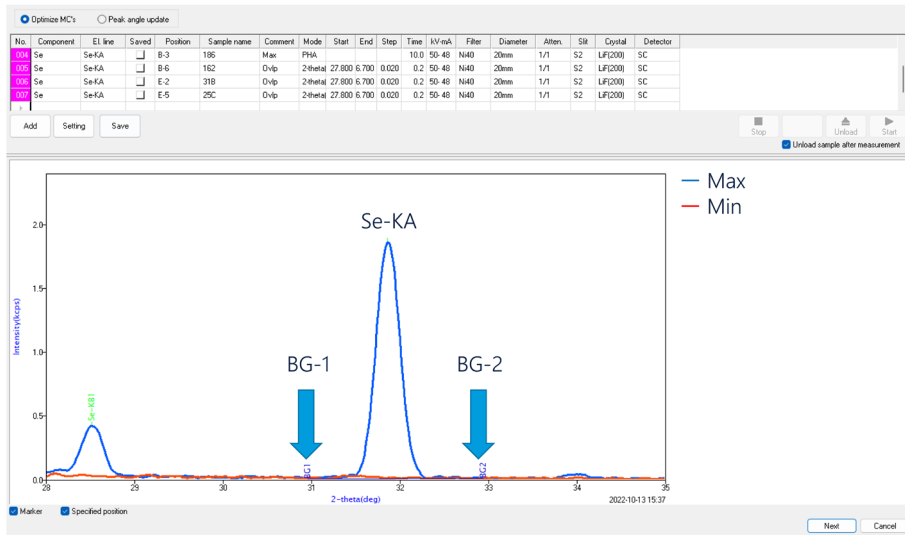
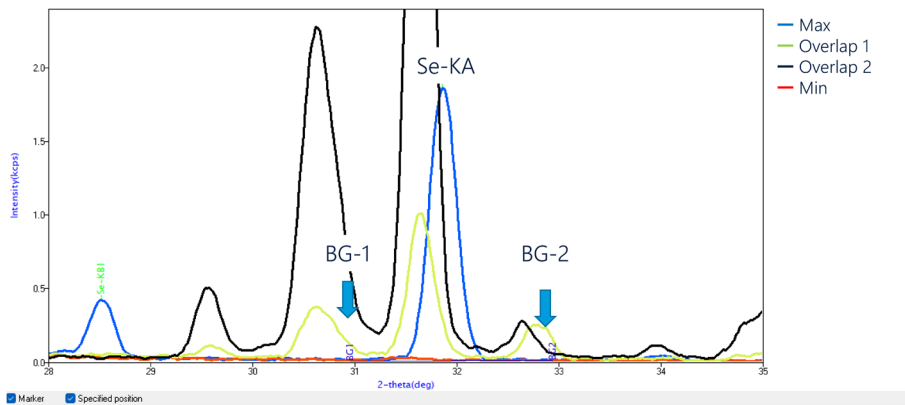

Fig. 1. BG position in a conventional system.
Fig. 2. Overlapped spectra of standard samples with and without interference lines.
When creating a calibration curve, it is necessary to optimize MCs such as analyzing crystal, slit and PH window, as well as the peak angle and BG angle of the measurement line. In a conventional system, this operation is performed using only the measurement results of the sample with the maximum and minimum content of the analyzed element automatically extracted from the standard sample list (Fig. 1).
The standard sample set for high-alloy analysis includes samples containing tungsten (W), tantalum (Ta), and lead (Pb) as coexisting elements. When a sample containing many of these elements is measured and superimposed on the data in Fig. 1, spectra derived from the coexisting elements in the standard sample are found to overlap at positions that were thought to be appropriate BG positions (Fig. 2). With this new function, more appropriate BG positions can be automatically set by monitoring not only the conventional content component information but also interference lines.